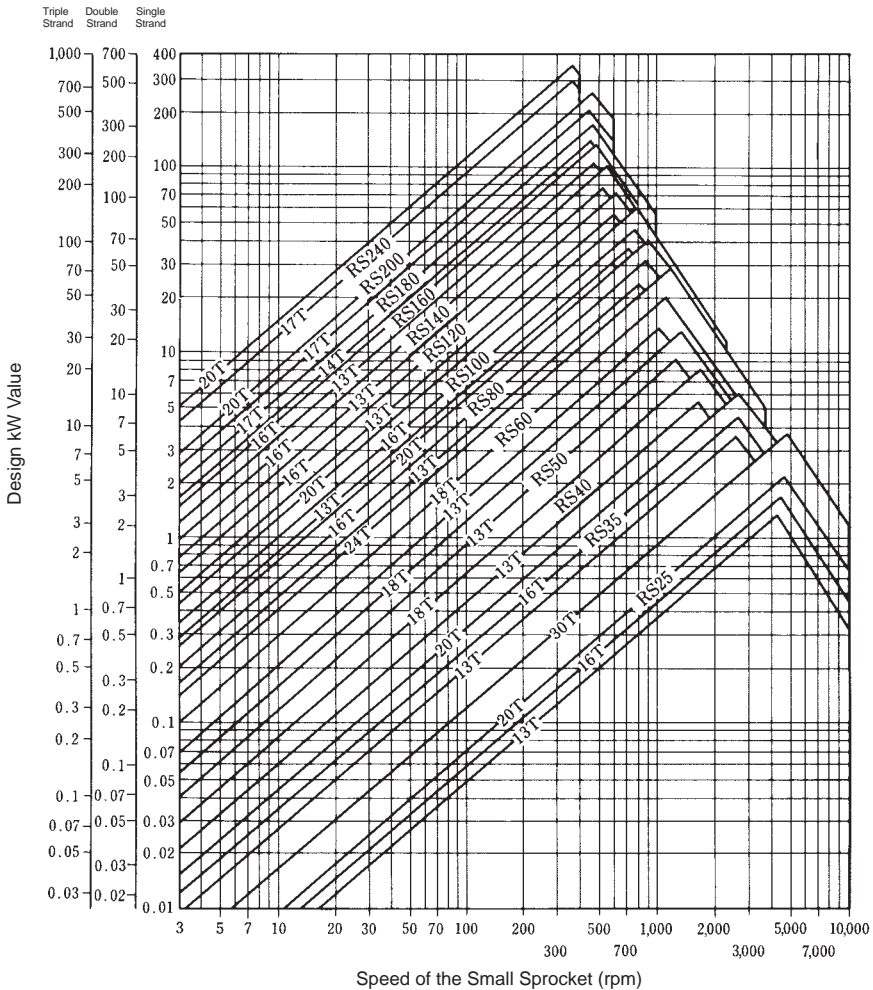

Figure 4.10 RS Roller Chain Provisional Selection Table
- Step 4. Consult the selection table (Figure 4.10). For $n = 50 rpm$ and corrected power = 9.75 kW, you should initially select RS140 chain and a 15-tooth drive sprocket. These are not the final selections. See manufacturer’s catalog for additional information.